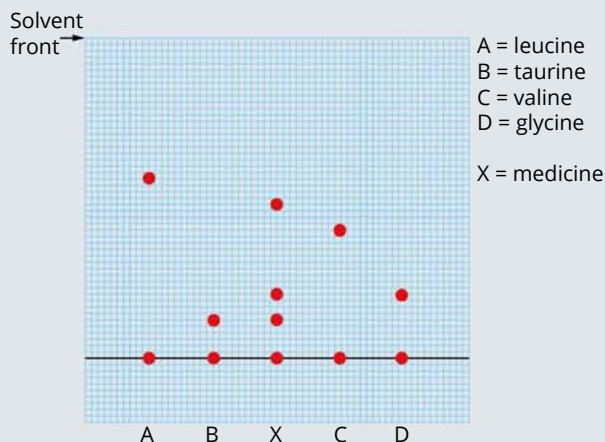

FIGURE 19.4.3 Thin-layer chromatogram of amino acids in a medicine.
- 15 Figure 19.4.3 shows a thin-layer chromatogram of amino acids in a medicine.